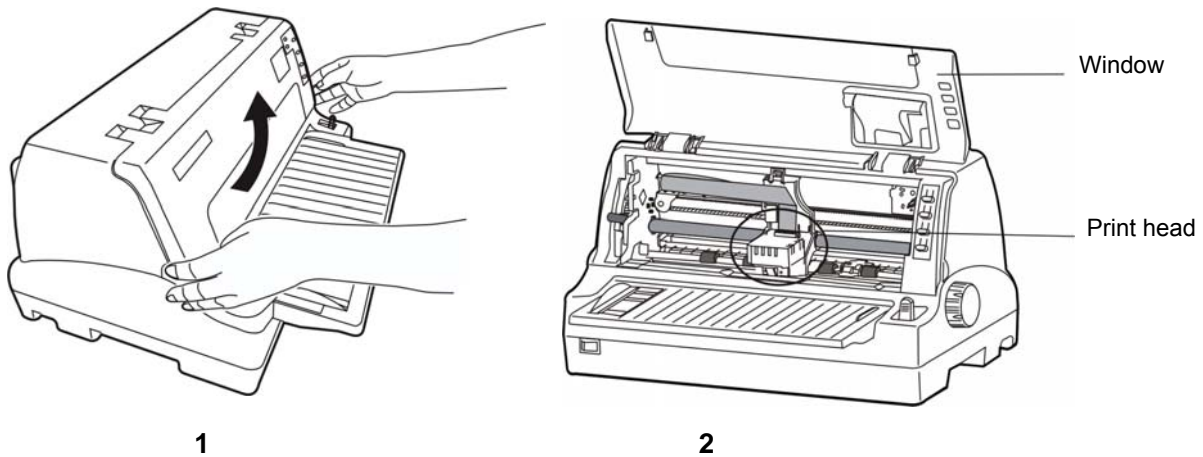

Figure 2-8 Opening the window
2. Hold the concaves of the window to open the window. (As figure 2-8 shown)
4. Slide the print head to the middle of the printer. (As figure 2-8 <2> shown)